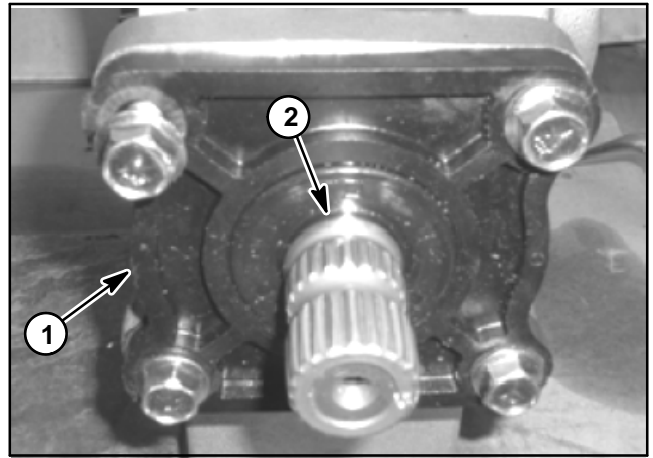

Figure 11
2. Remove the four (4) flange head screws from the input cover (Fig. 11). Remove the cover.